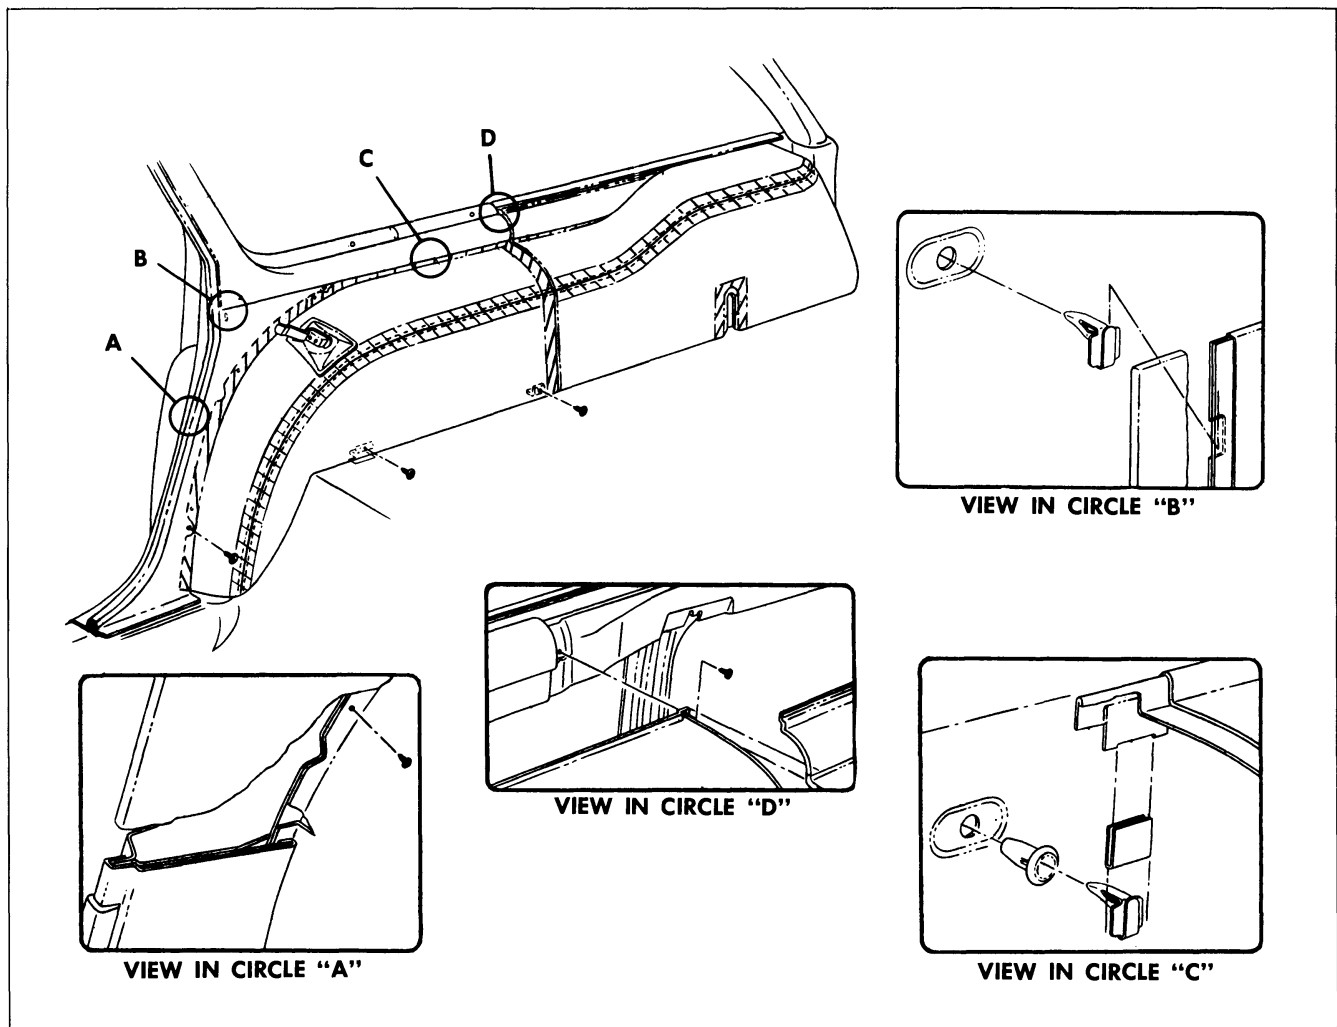
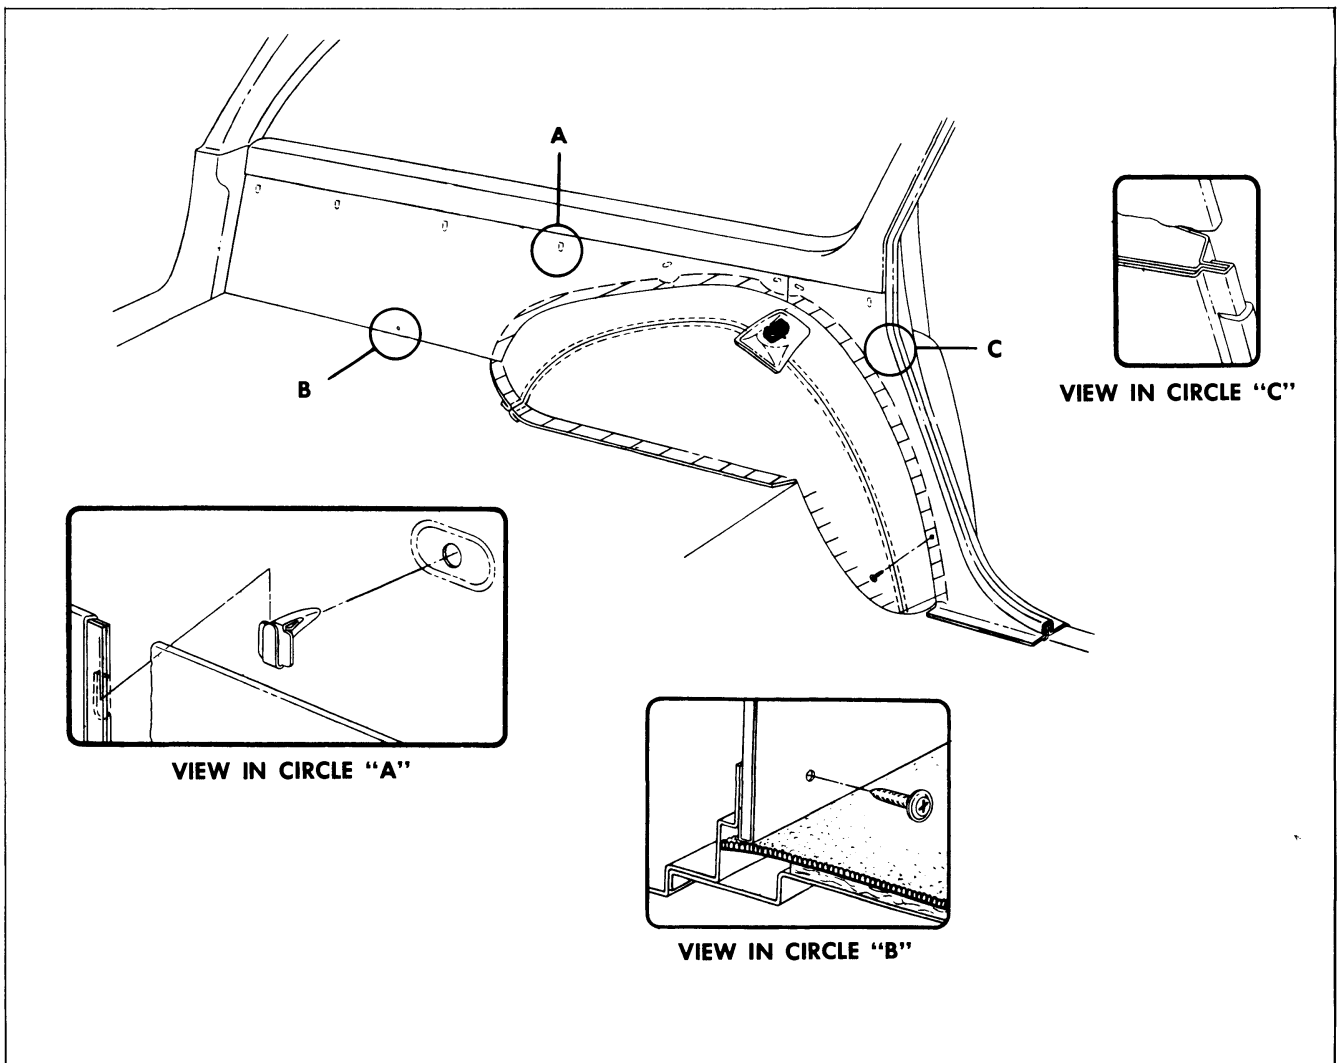

Fig. 13-9 Right Side Trim Installation
Fig. 13-10 Trim Installation
2. Remove exposed screw at lower end of front trim panel (Fig. 13-9 and Fig. 13-10). Beginning at rear upper edge, pry snap-in type clips from quarter inner panel along upper edge of trim panel (B, Fig. 13-9).
3. Remove screws at front, rear, and bottom of wheelhouse trim cover (Fig. 13-9). Using a flat-bladed tool, disengage snap-in type clips from plastic sealing plugs in quarter inner panel along top of wheelhouse trim cover panel and remove panel from body (C, Fig. 13-9).
2. Using a flat-bladed tool, pry snap-in type clips on trim panel from piercings in inner panel along upper edge of trim panel (A, Fig. 13-10). Begin removal at front and work rearward.